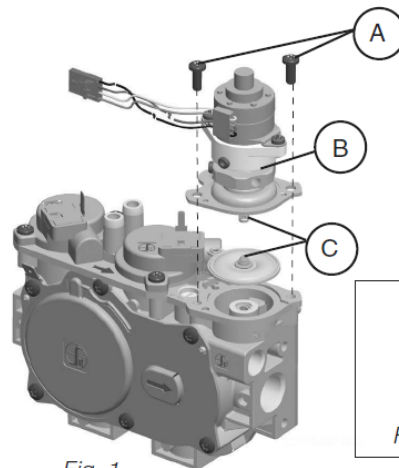

Fig. 1
- Pressure regulator assembly (E)
- Two (2) screws (F)
- Identification label (G)
- 2 See Fig. 1. Using a Torx T20, or slotted screwdriver, remove and discard the two (2) pressure regulator mounting screws (A), pressure regulator tower (B), and the spring and diaphragm assembly (C), (if applicable).